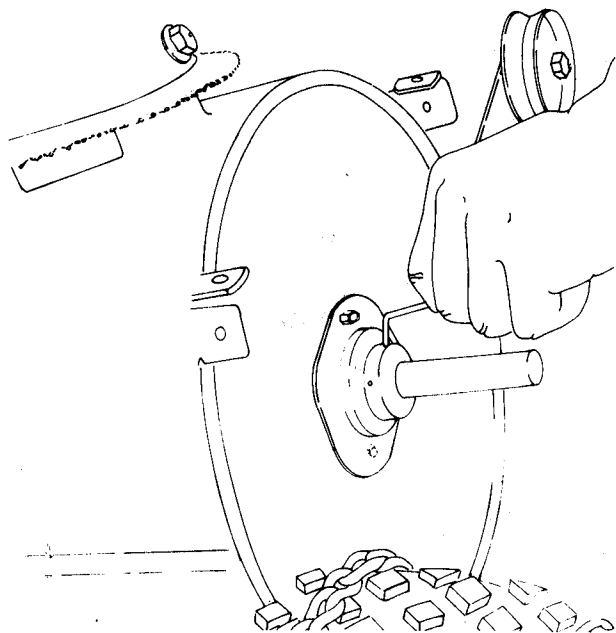
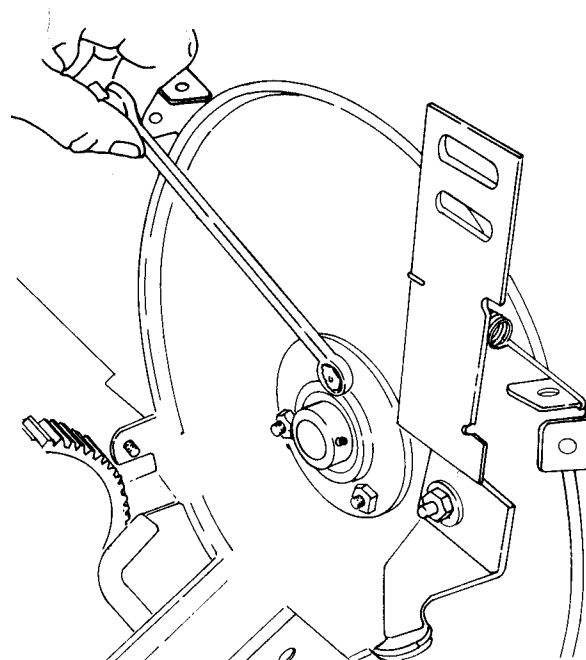

FIGURE 3.10 — REMOVING BEARING SETSCREWS
FIGURE 3.11 — REMOVING BEARING FLANGE NUTS
**STEP 3.** Loosen the setscrews on the housing bearing to allow pulling the impeller shaft out of the housing (figure 3.10). Replace the housing bearing if in bad condition at this point. To replace, remove the three flange nuts from the bearing housings then slide the bearing off and install replacement. The blower belt idler can also be replaced, if needed, at this time (figure 3.11).